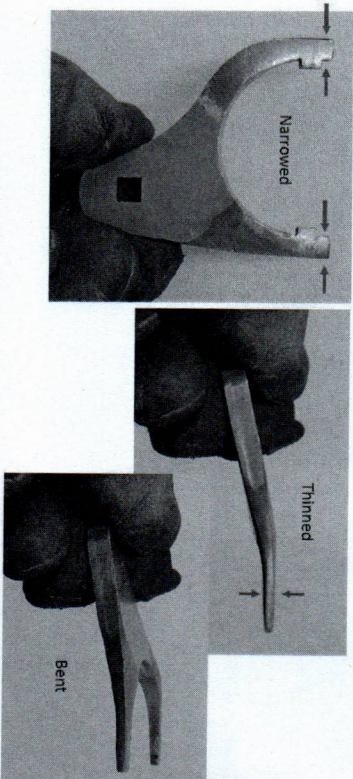

Figure 22. Crow's Foot Adapter Adjuster Modified for WJ Knuckles
6. If installing adjustable ball joints on a set of WJ knuckles, there may be clearance issues when trying to adjust the ball joints on the vehicle. It has been suggested to modify the adjustment tool by thinning out the forks and bending them slightly as pictured in Figure 22.